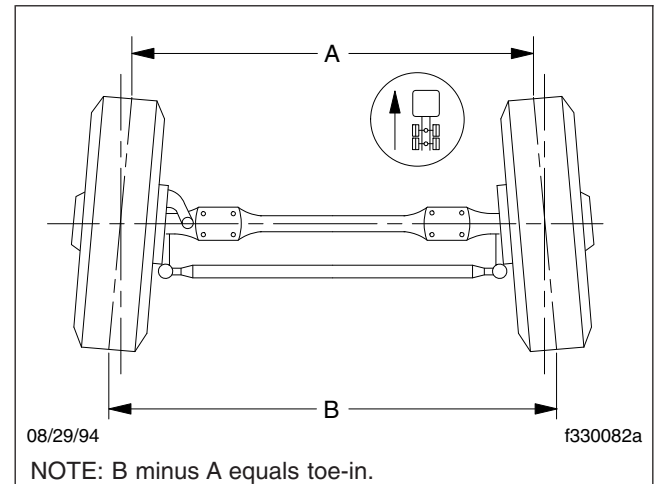

Fig. 6, Wheel Toe-In (overhead view)
6. Place a trammel bar at the rear of the front tires; locate the trammel pointers at spindle height, and adjust the pointers to line up with the scribe lines on the center ribs of the front tires. See Fig. 6. Lock in place. Check that the scale is set on zero.